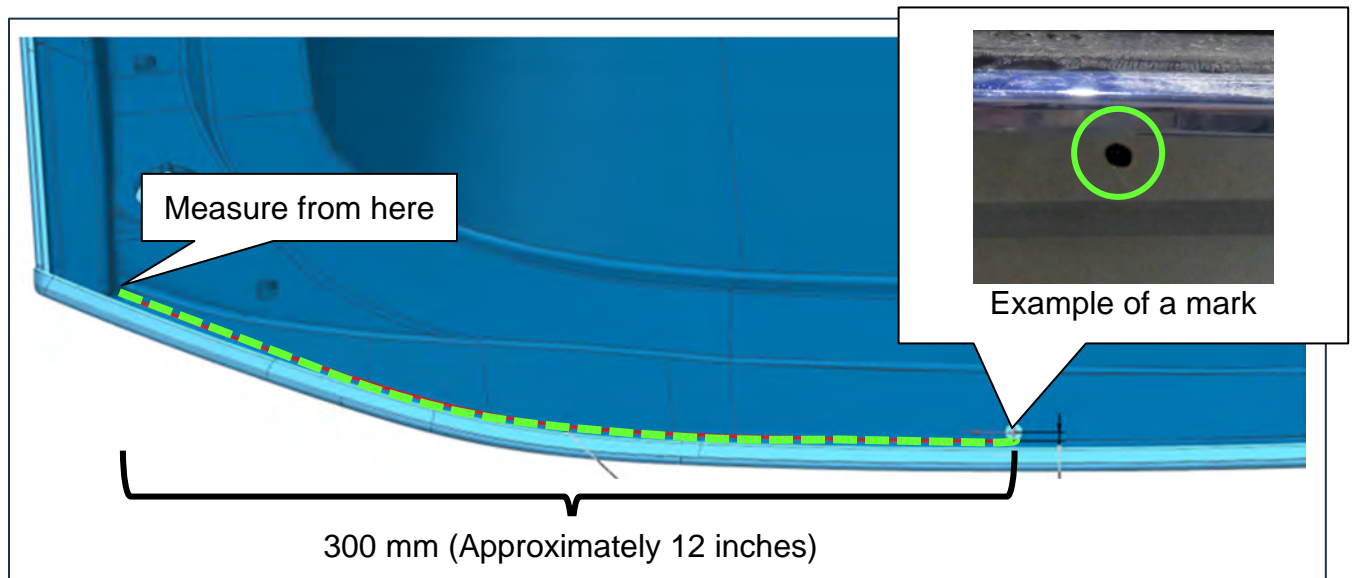

Figure 35
47. Measure 300 mm on the driver (LH) side of the Back Door (Approximately 12 inches) from where shown in Figure 35, and then place a mark on the underside edge of the Back Door with a black marker.
48. Measure 300 mm on the passenger (RH) side of the Back Door (Approximately 12 inches) from where shown in Figure 35, and then place a mark on the underside edge of the Back Door with a black marker.